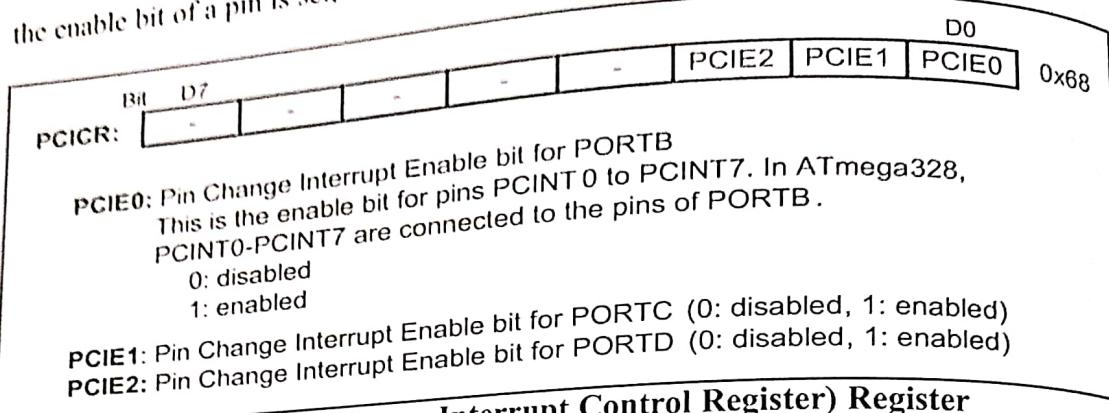
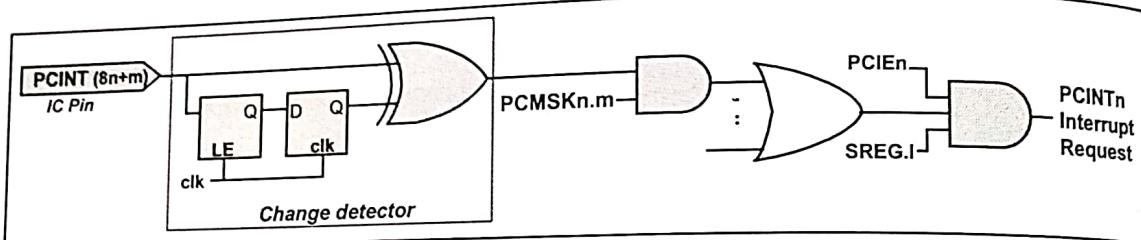

Figure 10-11. PCICR (Pin Change Interrupt Control Register) Register
Figure 10-12. Simplified Circuit of a PCINT Pin
rupt. See Figure 10-11. The PCICR register contains the enable bits for the ports. Figure 10-12 shows the simplified circuit for a PCINT pin. See Figures 10-12 and 10-13. For each PCINT pin there is an enable bit. If the enable bit of a pin is set, changes of the pin triggers an interrupt request.
- (2) PCIE0 of PCICR (See Figure 10-11. PCIE0 is for PORTB)
- (3) the I flag